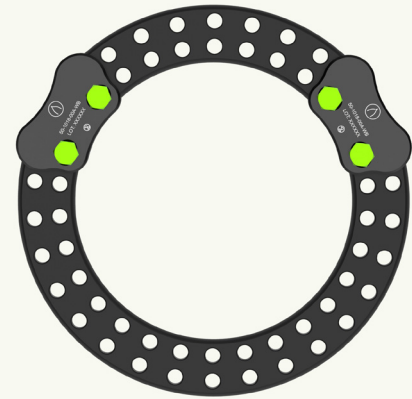
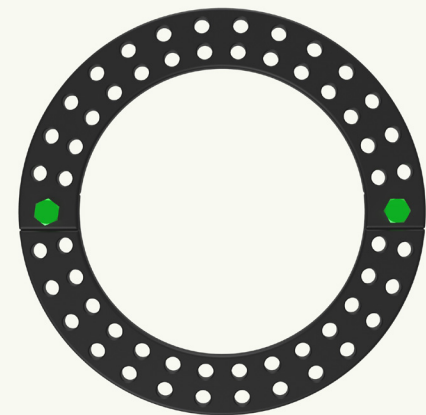

Fig. 19a - Assemble 2nd Level of Frame (if Needed)
Fig. 19b - Assemble 2nd Level of Frame (if Needed)
- 21 A Full Ring can be built above a previously affixed Ring using a 2/3 and 1/3 Ring of the same size, 105mm or larger, with the 1/3-2/3 Ring Connector, 20mm (green) Connection Bolts (x2) and nuts (x2) (Fig. 19a) or two 1/2 Rings of the same size with 20mm (green) Connection Bolts (x2) and Nuts (x2) (Fig. 19b).